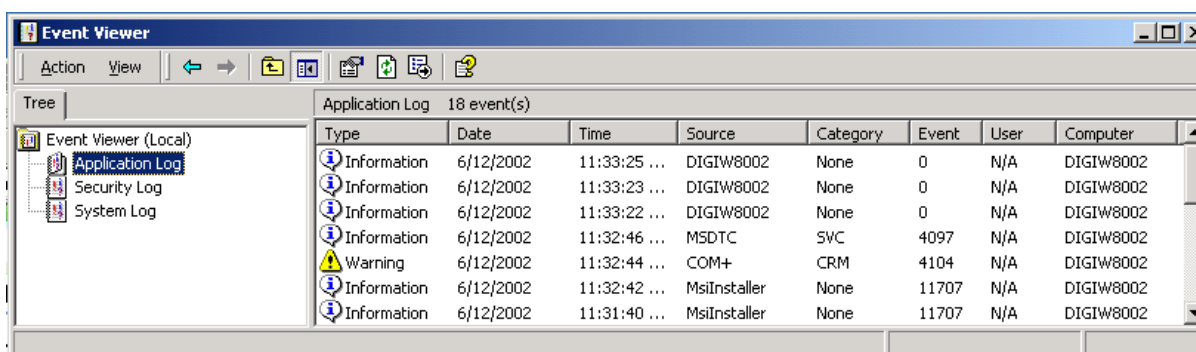

Figure 3-2. Event Viewer
3. Select [Event Viewer]. The Event Viewer opens. See Figure 3-2.